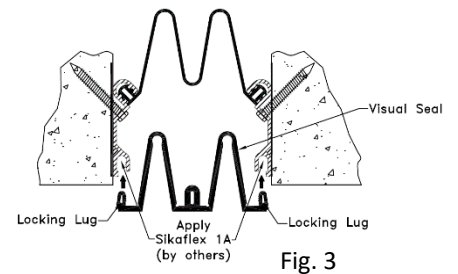

Fig. 3
7. Before installing visual seal apply Sikaflex adhesive into the front locking cavities of the aluminum extrusions (1A Fig. 3). Ensure full engagement of locking lug.